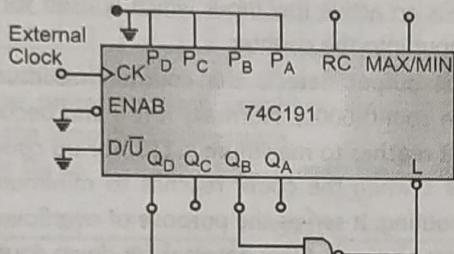

Fig. 3.84
- It is as shown in Fig. 3.84.
- As shown in Fig. 3.84, the counter will count clock pulses in up direction starting from 0000 to 1001.